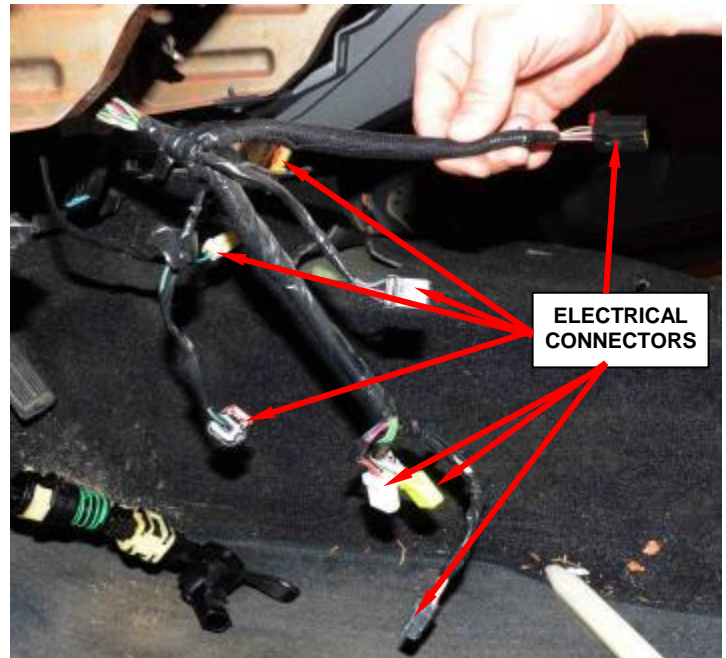

Figure 53 – Column Electrical Connectors
12. Disconnect the wiring harness electrical connectors from the column (Figure 53).
- a. Disconnect the accelerator position sensor electrical connector (Figure 53).